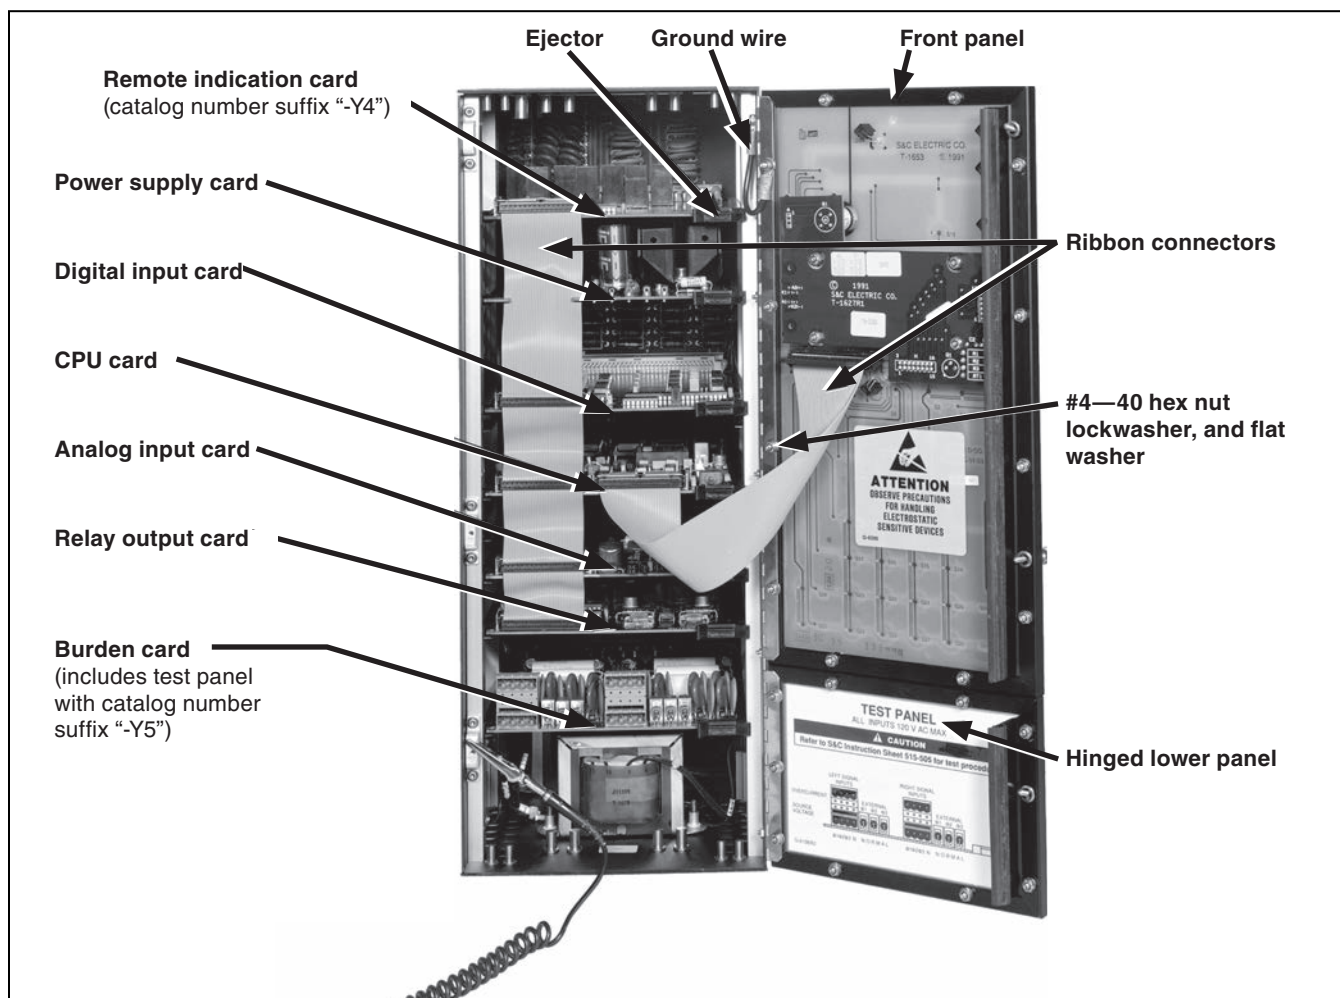

Figure 3. Layout of circuit cards in a Micro-AT Source-Transfer Control.
STEP 9. *If a circuit card is to be replaced:* Replace the affected circuit card using the following procedure. See Figure 3.
Replace the front panel assembly using the following procedure. See Figure 3 on page 8.